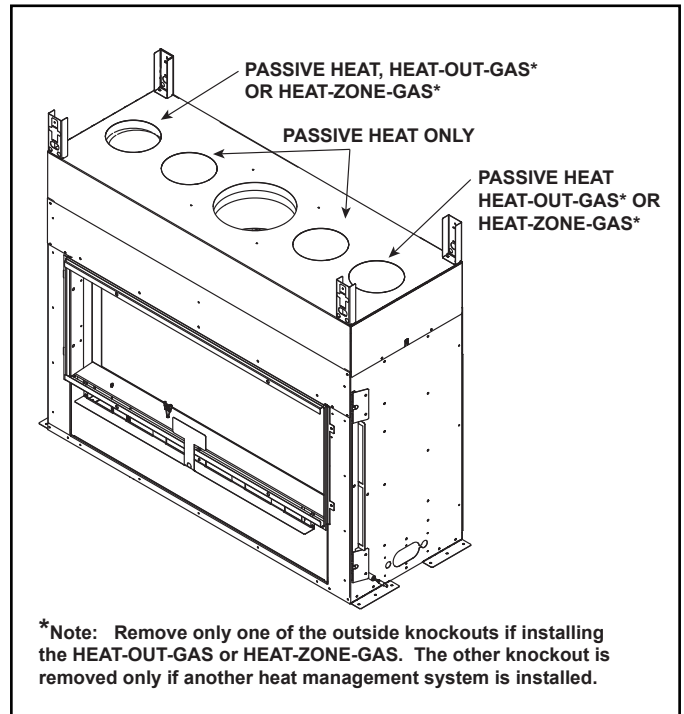

Figure 6.4
- Passive Heat (PH-MCE, PHFR-MCE, PHSI-MCE): May be used with HEAT-ZONE-GAS or one HEAT-OUT-GAS. The dedicated knockouts must be used only as indicated in Figure 6.4.